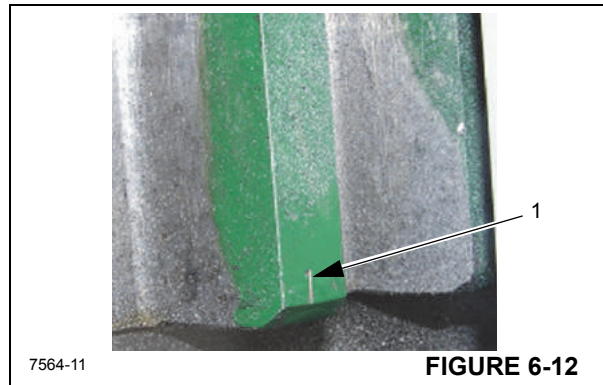
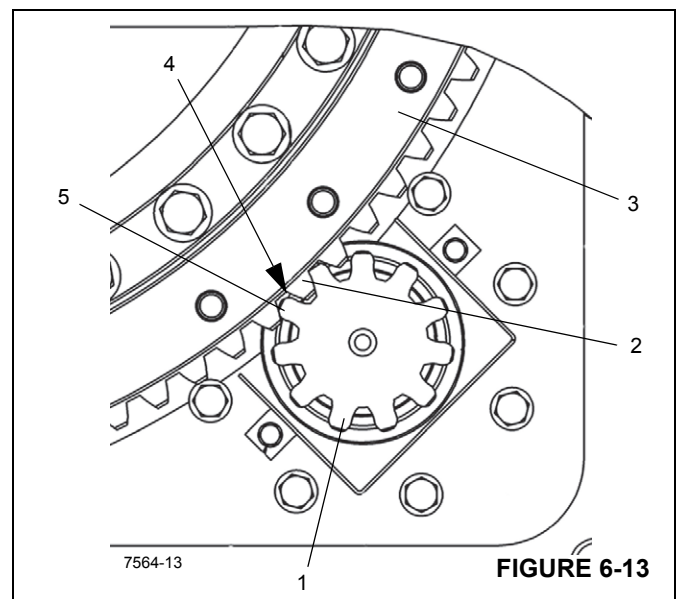

FIGURE 6-12
FIGURE 6-13
6. Install the swing drive pinion (1) Figure 6-13 so that the drive pinion gear teeth are aligned with the high point
The high point or maximum eccentricity of the turret bearing is identified at the factory using three gear teeth in a row on the turret bearing as the high point. Tooth one and three are steel stamped (1) Figure 6-12 with a dash mark at the top and bottom of the gear teeth. Use these three gear teeth when installing the swing drive and checking the backlash shown in Figure 6-13.
7. Check the backlash (4) Figure 6-13 with .203 mm (0.008 in) thick shim between the drive pinion gear teeth (5) and the high point (maximum eccentricity) gear teeth (2) on the turret bearing.
NOTE: If a new bearing (3) Figure 6-13 is installed, a new pinion gear (1) must also be used.